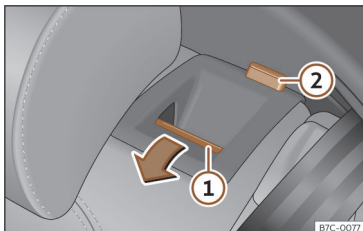

Fig. 97 Rear seat: folding down the backrest.
- Press the unlock button >>> **Fig. 97** ① forwards and at the same time fold the backrest down. The rear seat backrest is not engaged when the red marking of the button ② is visible.